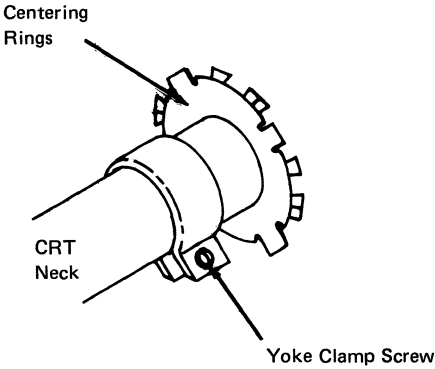

Figure 5-2. Yoke Adjustments
Disable vertical deflection by installing jumpers on the analog card test points (see Figure 4-6). Jumper test point A to C and C to B, or wrap a bare wire around all four pins. A single horizontal trace should be displayed. This trace should be parallel to, and vertically and horizontally centered on, line 1 on the alignment mask. If the trace is not parallel to line 1, the yoke must be aligned. If the trace is not centered, the centering rings must be adjusted (see Figure 5-2). In either case, the CRT cone shield must be removed before the adjustment is made.
1. Loosen the yoke clamp screw (see Figure 5-2).
Turn the centering rings (Figure 5-2) to center the horizontal trace, both vertically and horizontally, on line 1 of the alignment mask. The width (length of the horizontal trace) should be 266.7 mm (10.5 in.) as indicated by line 2 on the alignment mask. You may have to adjust the width potentiometer, width (80), on the analog card (Figure 4-6), with the centering rings.